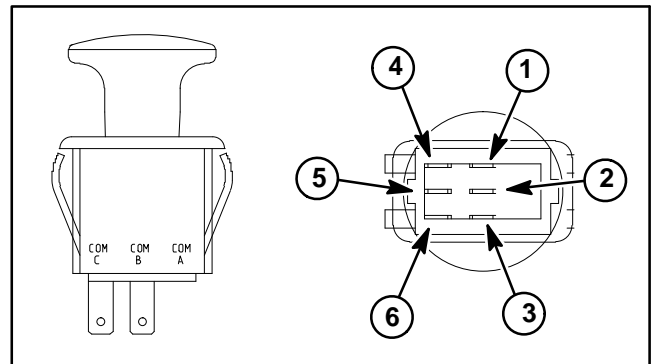

Figure 37
5. The enable/disable switch terminals are marked (Fig. 37). The circuit logic of the enable/disable switch is shown in the chart (Fig. 38). With the use of a multimeter (ohms setting), the switch functions can be tested to determine whether continuity exists between the various terminals for each switch position. Verify continuity between switch terminals. Replace enable/disable switch if testing identifies that switch is faulty.